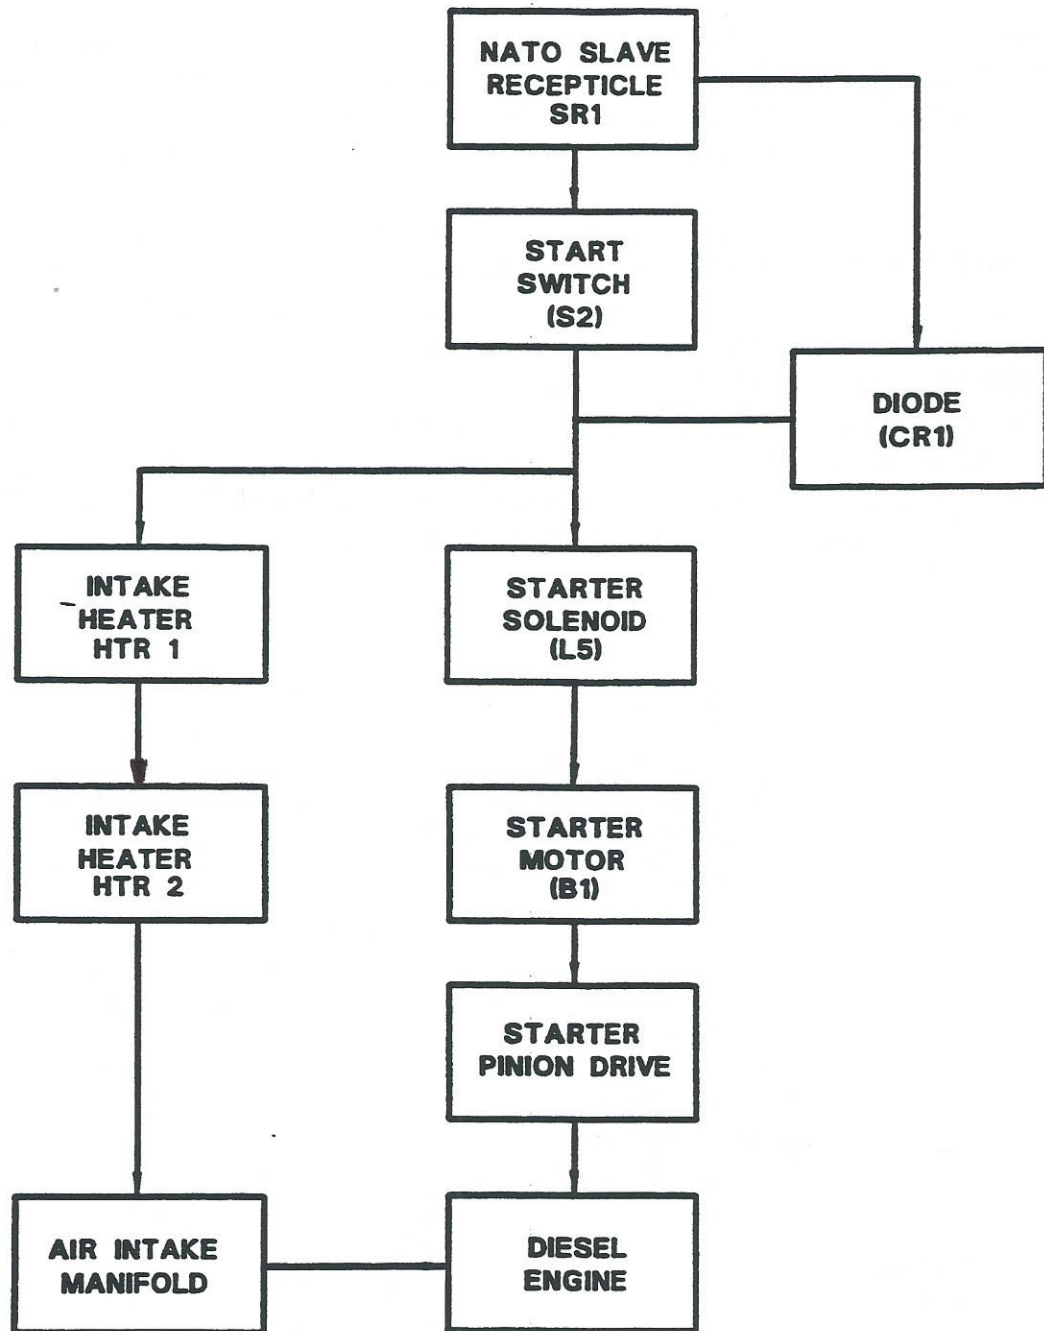

Figure 13 Diesel Engine Electrical Starting System
**Electrical Starting** The diesel engine starting system (Figure 13) can be used to start the diesel engine whenever there is an external 24 VDC power source connected to the NATO slave receptacle. The electrical starting system will be required when starting the diesel engine in extremely cold weather or as a backup to the manual starting system (recoil mechanism failure). The electrical system also provides a means for warming diesel engine intake air which also helps to start the engine in cold weather. The system consists of a NATO slave receptacle (SR1), START PREHEAT/PREHEAT/OFF/START switch (S2), diode (CR1), an engine-mounted starter motor (B1) with solenoid (L5), and two resistance heater elements (HTR1 and HTR2).